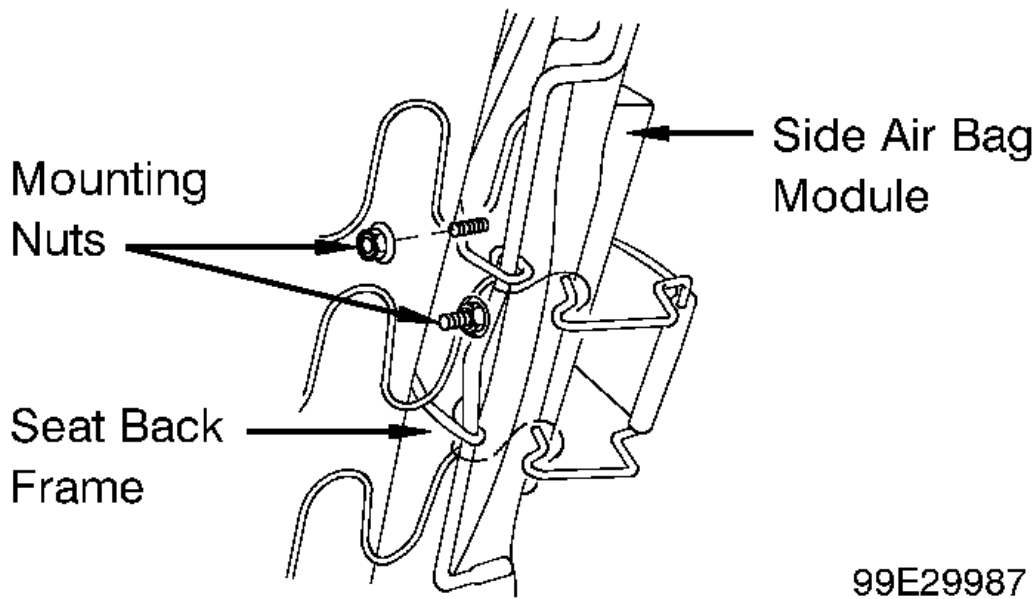

Fig. 25: Identifying Side Air Bag Module
1. Before proceeding, see **AIR BAG SAFETY PRECAUTIONS** . Disable air bag system. See **DISABLING SYSTEM** under DISABLING & ACTIVATING AIR BAG SYSTEM. Remove appropriate front seat and seat back cover. Remove side air bag module mounting nuts and side air bag module. See **Fig. 25** .